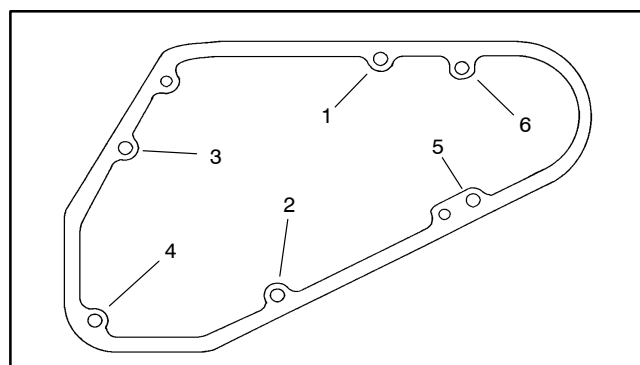

Figure 48
12. Position drive shaft plate to gearbox with three fasteners: two socket head screws (shorter) and one cap screw with lockwasher. Install four socket head screws (longer) and washers in remaining holes in cover. Torque gearbox fasteners from 120 to 140 in-lb (137 to 159 kg-cm) in the sequence shown in Figure 48.